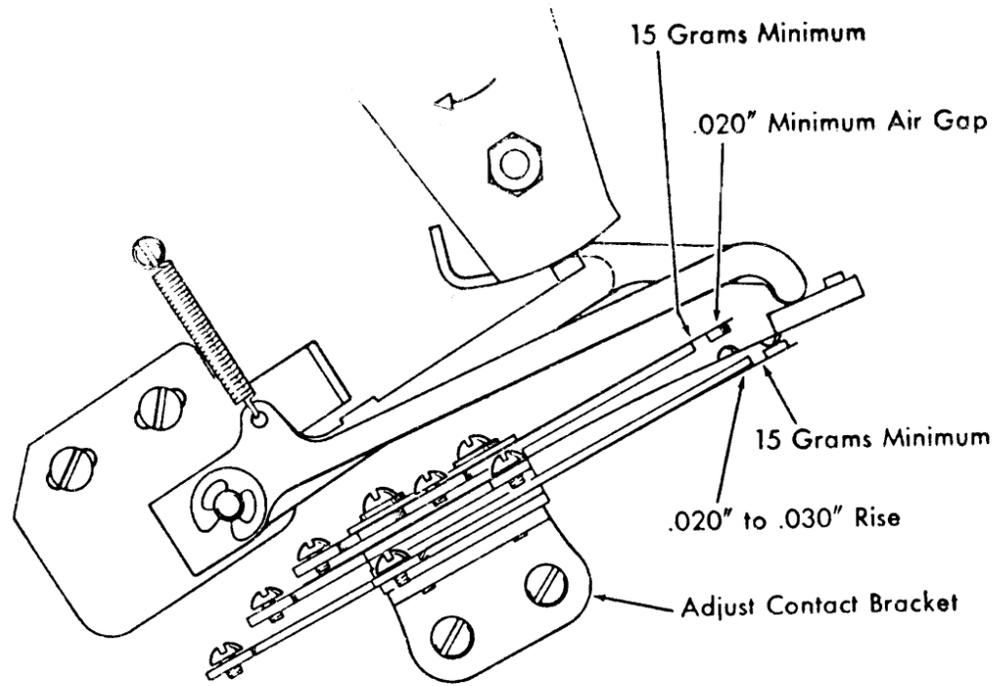

Figure 1. Program Cam Contact Adjustment
2. Set the contact levers on the high point of the cam (approximately column 84 as shown in Figure 1). Position the contact bracket for a make of the N/O points with .020" to .030" rise off the support. Form the N/C support for a minimum air gap of .020". Rotate the lever bracket to hold the levers 1/64" from the phenolic pads on the closest transfer strap. There should be a minimum of .020" air gap at the N/O contacts when the contact levers are off the cam. See that neither lever grounds out the rivet on the contact.